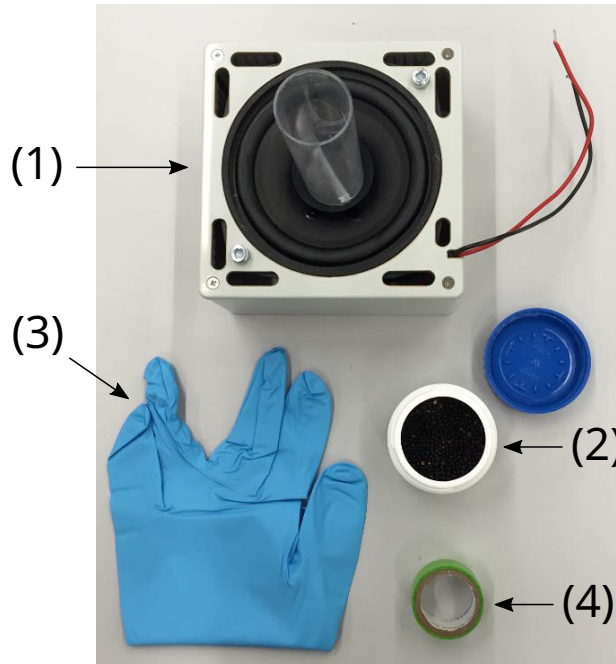

Figure 2: Additional equipment for this experiment.
- The amplitude of the saw-tooth signal can be adjusted using the right potentiometer labeled speaker amplitude (4). A DC voltage proportional to the signal amplitude is output on the speaker amplitude monitor socket (6) (with respect to the GND socket (7)). The numbers refer to the photograph (Figure 2) shown in the general instructions.